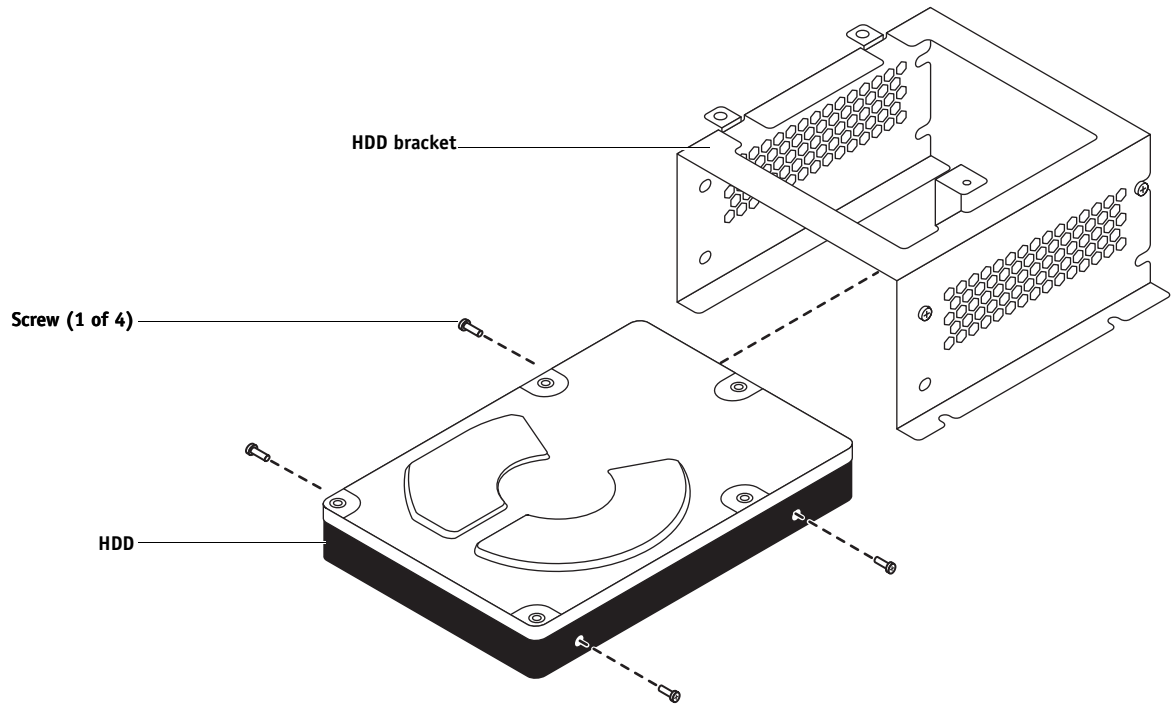

FIGURE 32: Removing/replacing the HDD from the HDD bracket
8. Remove the four screws that attach the HDD to the HDD bracket (see Figure 32 on page 90).
2. Position the HDD inside the HDD bracket and align the mounting holes on the HDD with the four holes in the bracket (see Figure 32 on page 90).